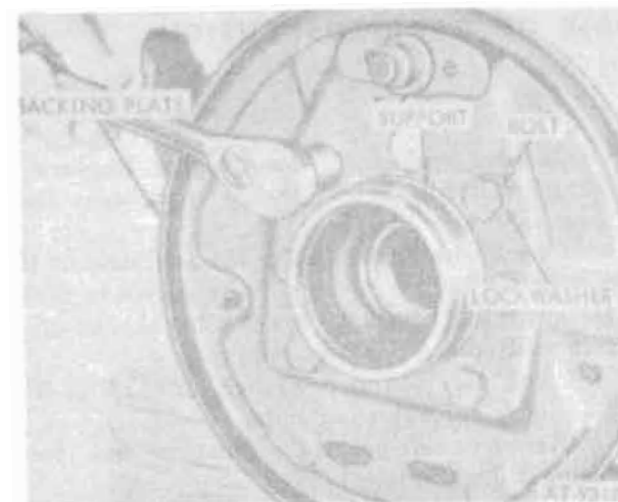

Figure 11-21. Brake backing plate and attaching hardware.
b. Remove six bolts and lockwashers securing brake backing plate to spindle support (fig. 11-21).